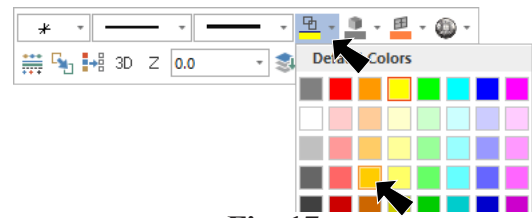

Fig. 17
Step 1. Sketch stuffing box **tangerine**. Right click in the graphics window and on the Mini Toolbar click **Wireframe Color**  drop down arrow and select tangerine, Fig. 17.